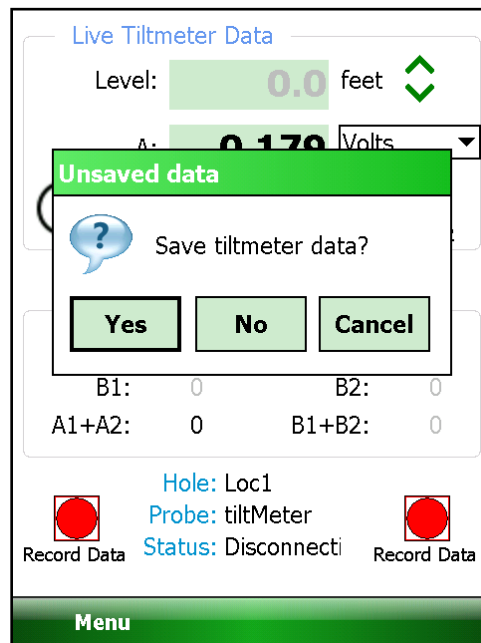

Figure 122 - Save Data Query
- 7) Reverse the Tiltmeter orientation to A- and, again, tap “Record Data” to take the “A-” reading. For the Model 6101D, the “B-” reading is taken at the same time as “A-”. Tapping “Menu->Exit Live Readings” will display the window in Figure 122.